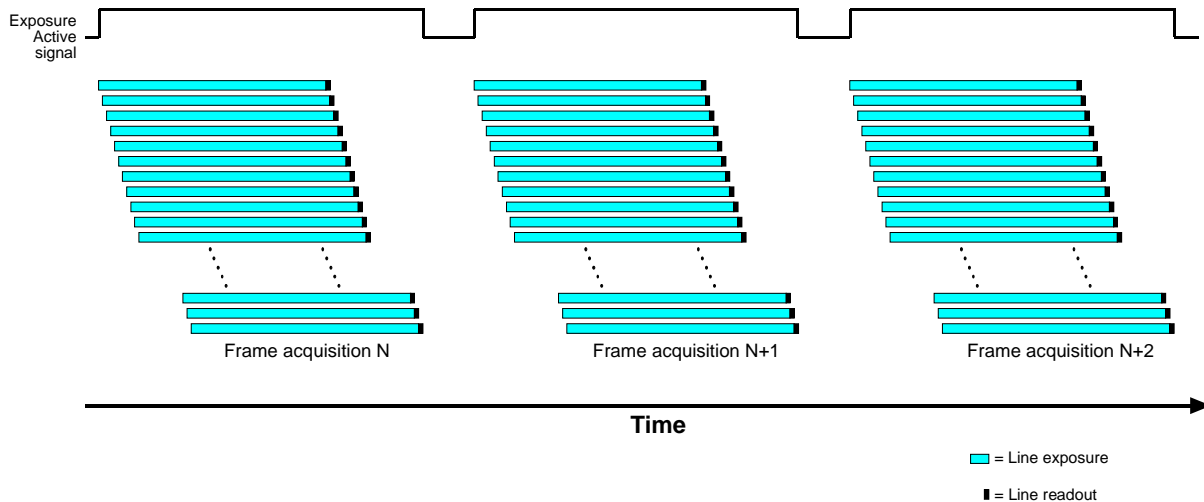

Fig. 92: Exposure Active Signal on Cameras with a Rolling Shutter
- low when exposure for the last line ends as shown in Figure 92.